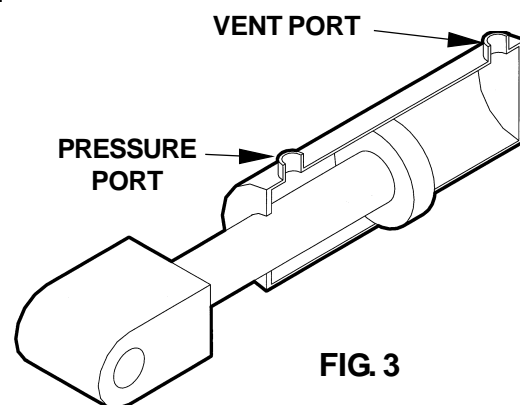

FIG. 3
3. Check the Hydraulic Cylinder. With the Platform on the ground, remove the Breather Plug or Vent Line from the Vent Port of the Cylinder (**FIG. 3**). Raise the Platform even with the bed. Allow pump motor to run two seconds more while you watch for hydraulic fluid at the Vent Port. A few drops of hydraulic fluid escaping the Vent Port is normal; however, if it streams from the Vent Port, Piston Seals are worn. Replace Seals.
4. Check the Hydraulic Cylinder. With the Platform on the ground, remove the Breather Plug or Vent Line from the Vent Port of the Cylinder (**FIG. 3**). Raise the Platform even with the bed. Allow pump motor to run two seconds more while you watch for hydraulic fluid at the Vent Port. A few drops of hydraulic fluid escaping the Vent Port is normal; however, if it streams from the Vent Port, Piston Seals are worn. Replace Seals.